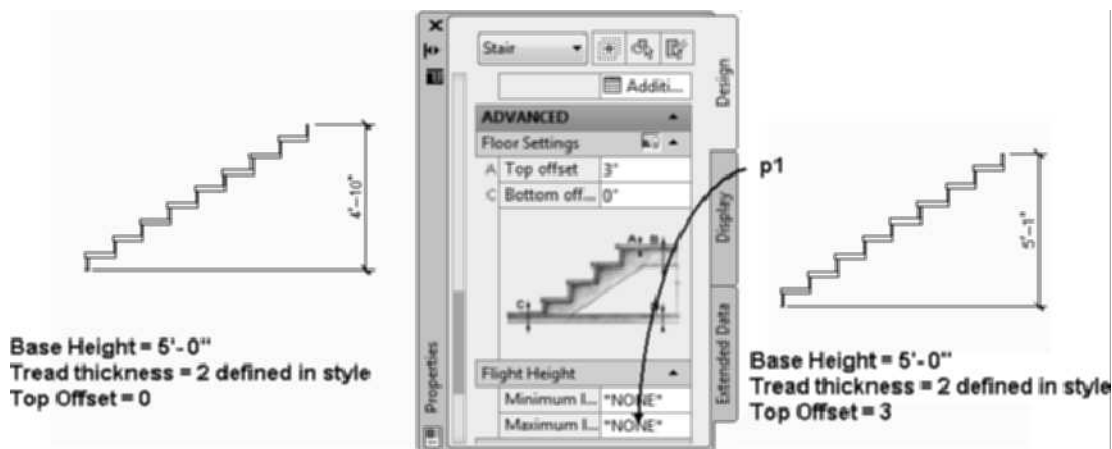

FIGURE 9.6 Stair adjustment for Top Offset
19. The Floor Settings of the stair may be adjusted in the Advanced section of the Properties palette. The A-Top Offset value within the Advanced section allows you to enter a value that represents the thickness of flooring at the top of the flight as shown in Figure 9.6. The C-Bottom Offset value represents the thickness of the flooring material at the bottom of the stair.
21. The landing at the flight end specified earlier in this tutorial is now displayed in elevation view. The **Flight Height** section within the Advanced section as shown at **p1** in Figure 9.6, allows you to control the location intermediate landings based upon a minimum or maximum limits. The Minimum limit type options include None, Risers, or Height. You can specify a minimum height or number of risers for the stair.